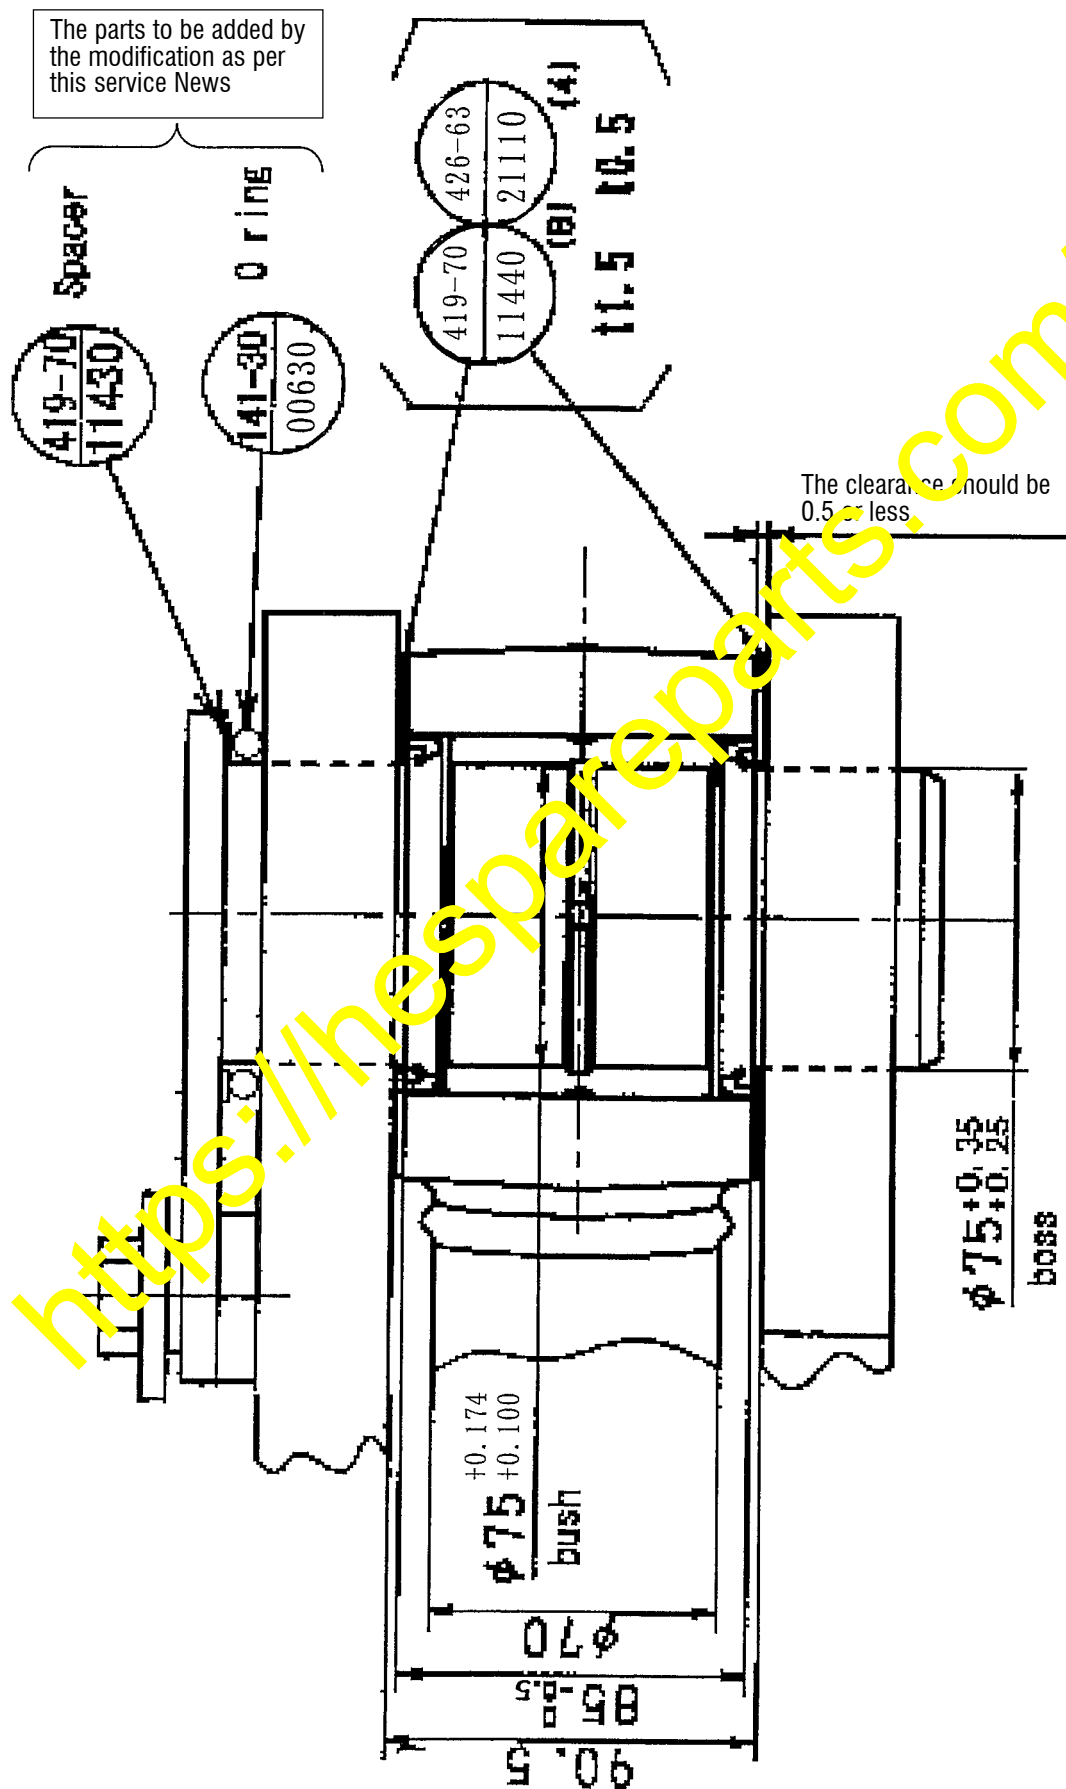

Fig. 2
- (2) Install the sealing parts (O-ring and spacer) between the pin and the hinge plate. Referring to Fig. 2, carry out the shim adjustment to adjust the thrust clearance between the cylinder and the hinge.